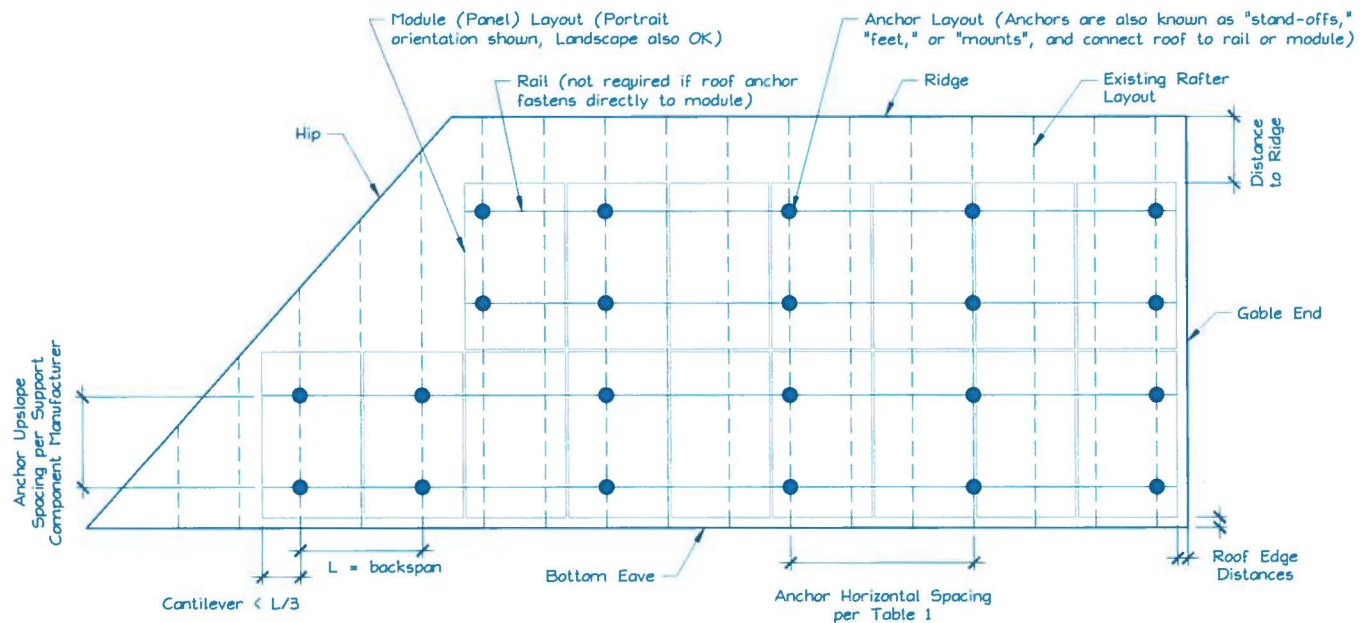

Figure 2. Sample Solar Panel Array and Anchor Layout Diagram (Roof Plan).
- E. Is a roof plan of the module and anchor layout attached? (see Figure 2) Y N
- 1) Proposed anchor horizontal spacing (see Figure 2): _____' _____" ft-in
1. Anchors are also known as "stand-offs," "feet," "mounts" or "points of attachment." Horizontal anchor spacing is also known as "cross-slope" or "east-west" anchor spacing (see Figure 2).